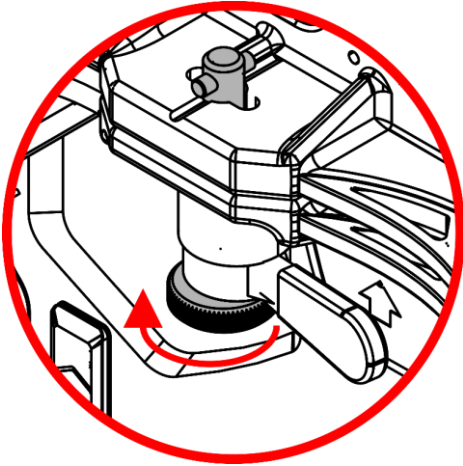

Fig. 11
- 03) Make sure that the **pins (C)** are firmly locked in the **fast-lock opening (11)**, as shown in Fig. 11.